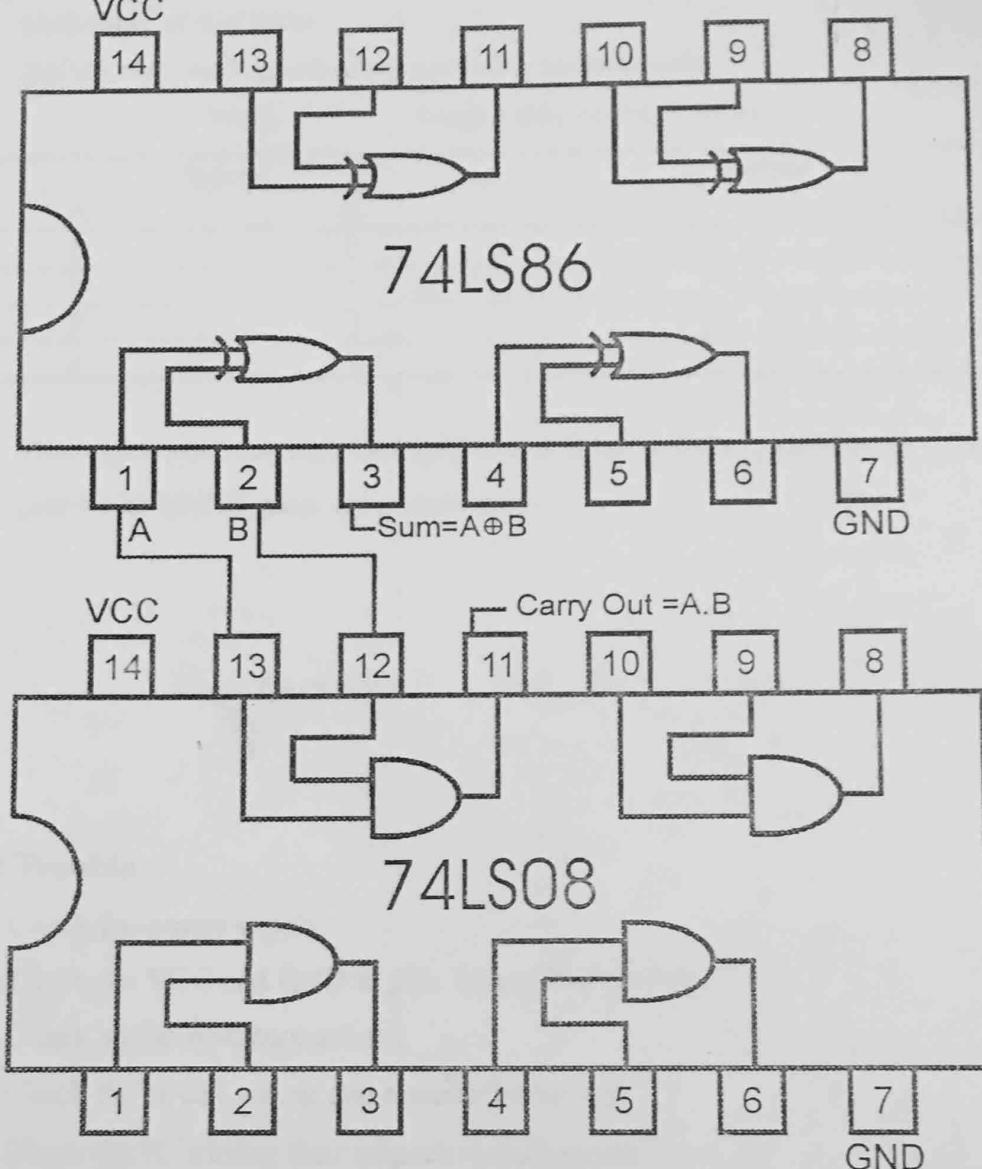

Figure 9.2
4. Wire the circuit according to the diagram shown in Figure 9.2.